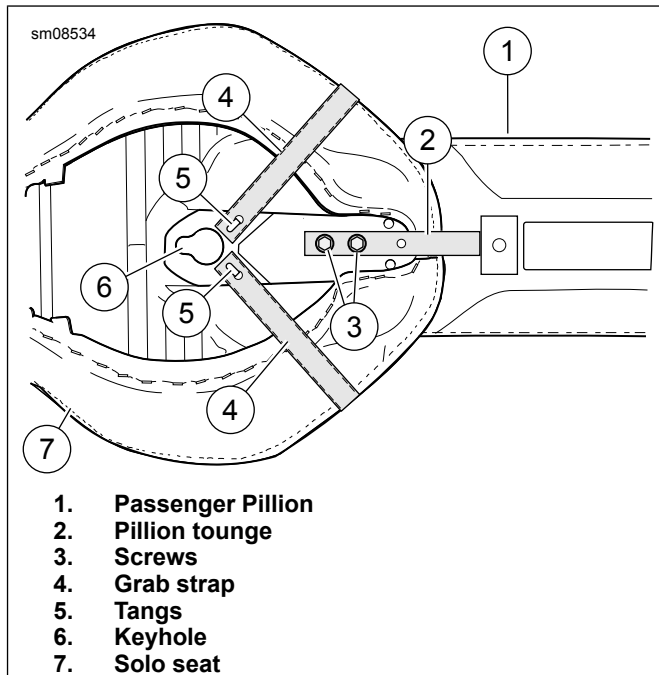

Figure 4. Pillion and Grab Strap Installation
6. See Figure 4. Attach the passenger pillion to the solo seat by sliding the metal bracket on the pillion over the solo seat. For 52400125: Attach metal tab on pillion to solo seat with OE flange screws (C). For 52400127: Attach metal tab on pillion to solo seat with new screws from kit (3). Tighten to 4.5–6.8 N·m (40–60 in-lbs).
7. Install the grab strap (4) onto the bottom of the seat. Hook one side of the grab strap onto the tang (5) on the underside of the seat. Loop the grab strap over the seat. Hook the remaining side onto the other tang.